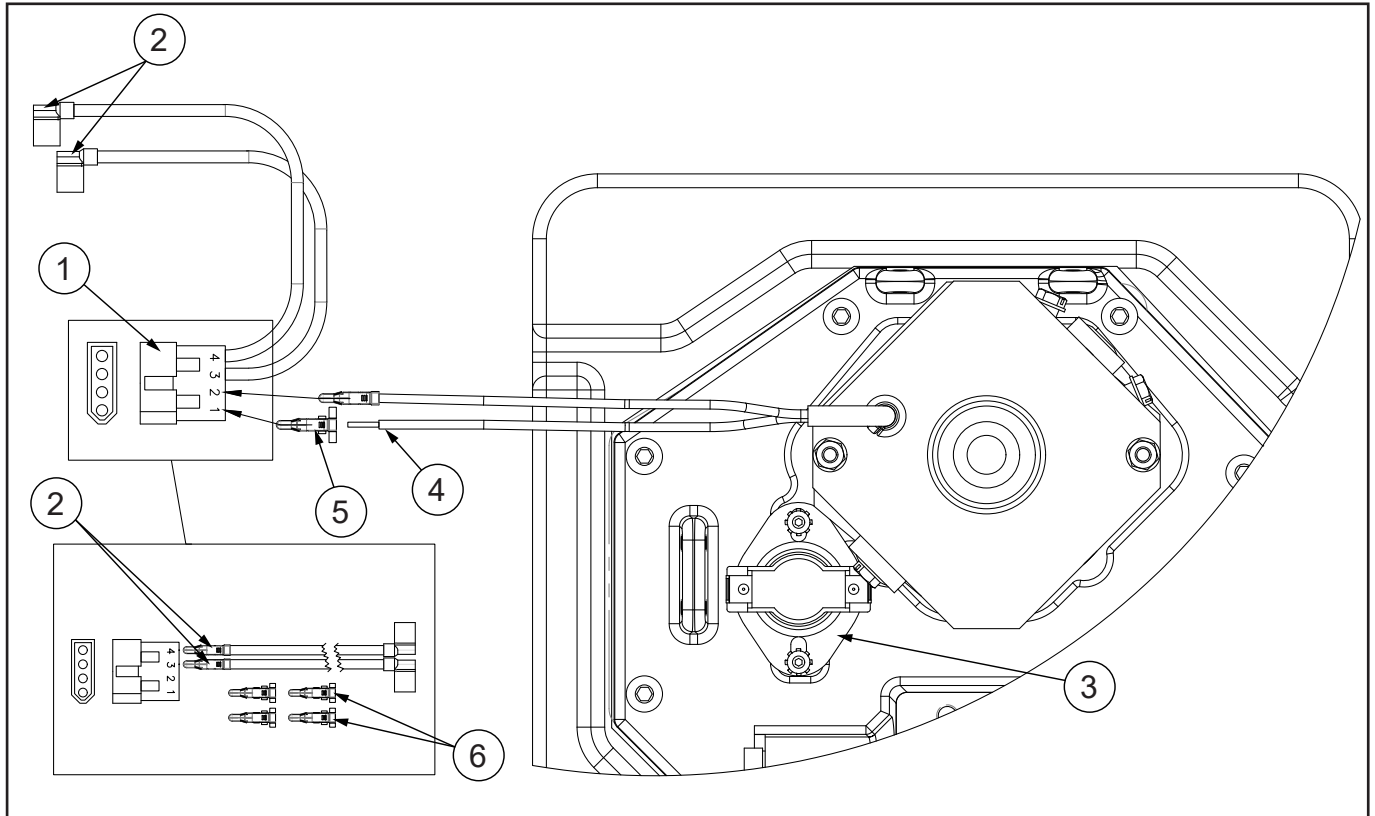

Figure 2: Shroud Assembly
1. Install the new connector (Item 1, Figure 2). Use the pointed end of the connector as positioning reference.
2. Connect brown wires (Item 2, Figure 2) into positions 3 and 4 of the connector (Item 1, Figure 2).
3. Connect brown wires (Item 2, Figure 2) to the thermostat (Item 3, Figure 2).
4. Strip 1/4" off the ends of the motor wires (Item 4, Figure 2).
5. Crimp 1 pin (Item 5, Figure 2) on the end of each motor wire. Pull pin to ensure the pin is properly attached to the wire. There are 2 spare pins (Item 6, Figure 2) if connection to wire fails.
6. Connect motor wires into positions 1 and 2 of the connector (Item 1, Figure 2). Make sure that the wires lock in place.